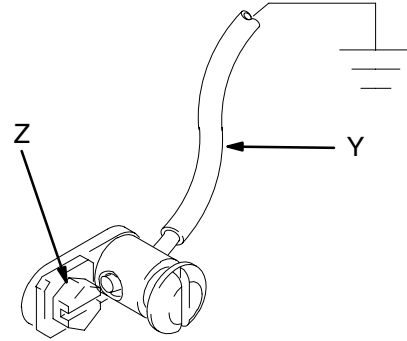

Fig. 1
- *Pump:* Use ground wire and clamp as shown in Fig. 1.
To ground the pump, remove ground screw (Z) and insert through the eye of the ring terminal at end of ground wire (Y). Fasten ground screw back onto pump and tighten securely. Connect the other end of ground wire to a true earth ground. See Fig. 1. *To order a ground wire and clamp, order Part No. 222011.*